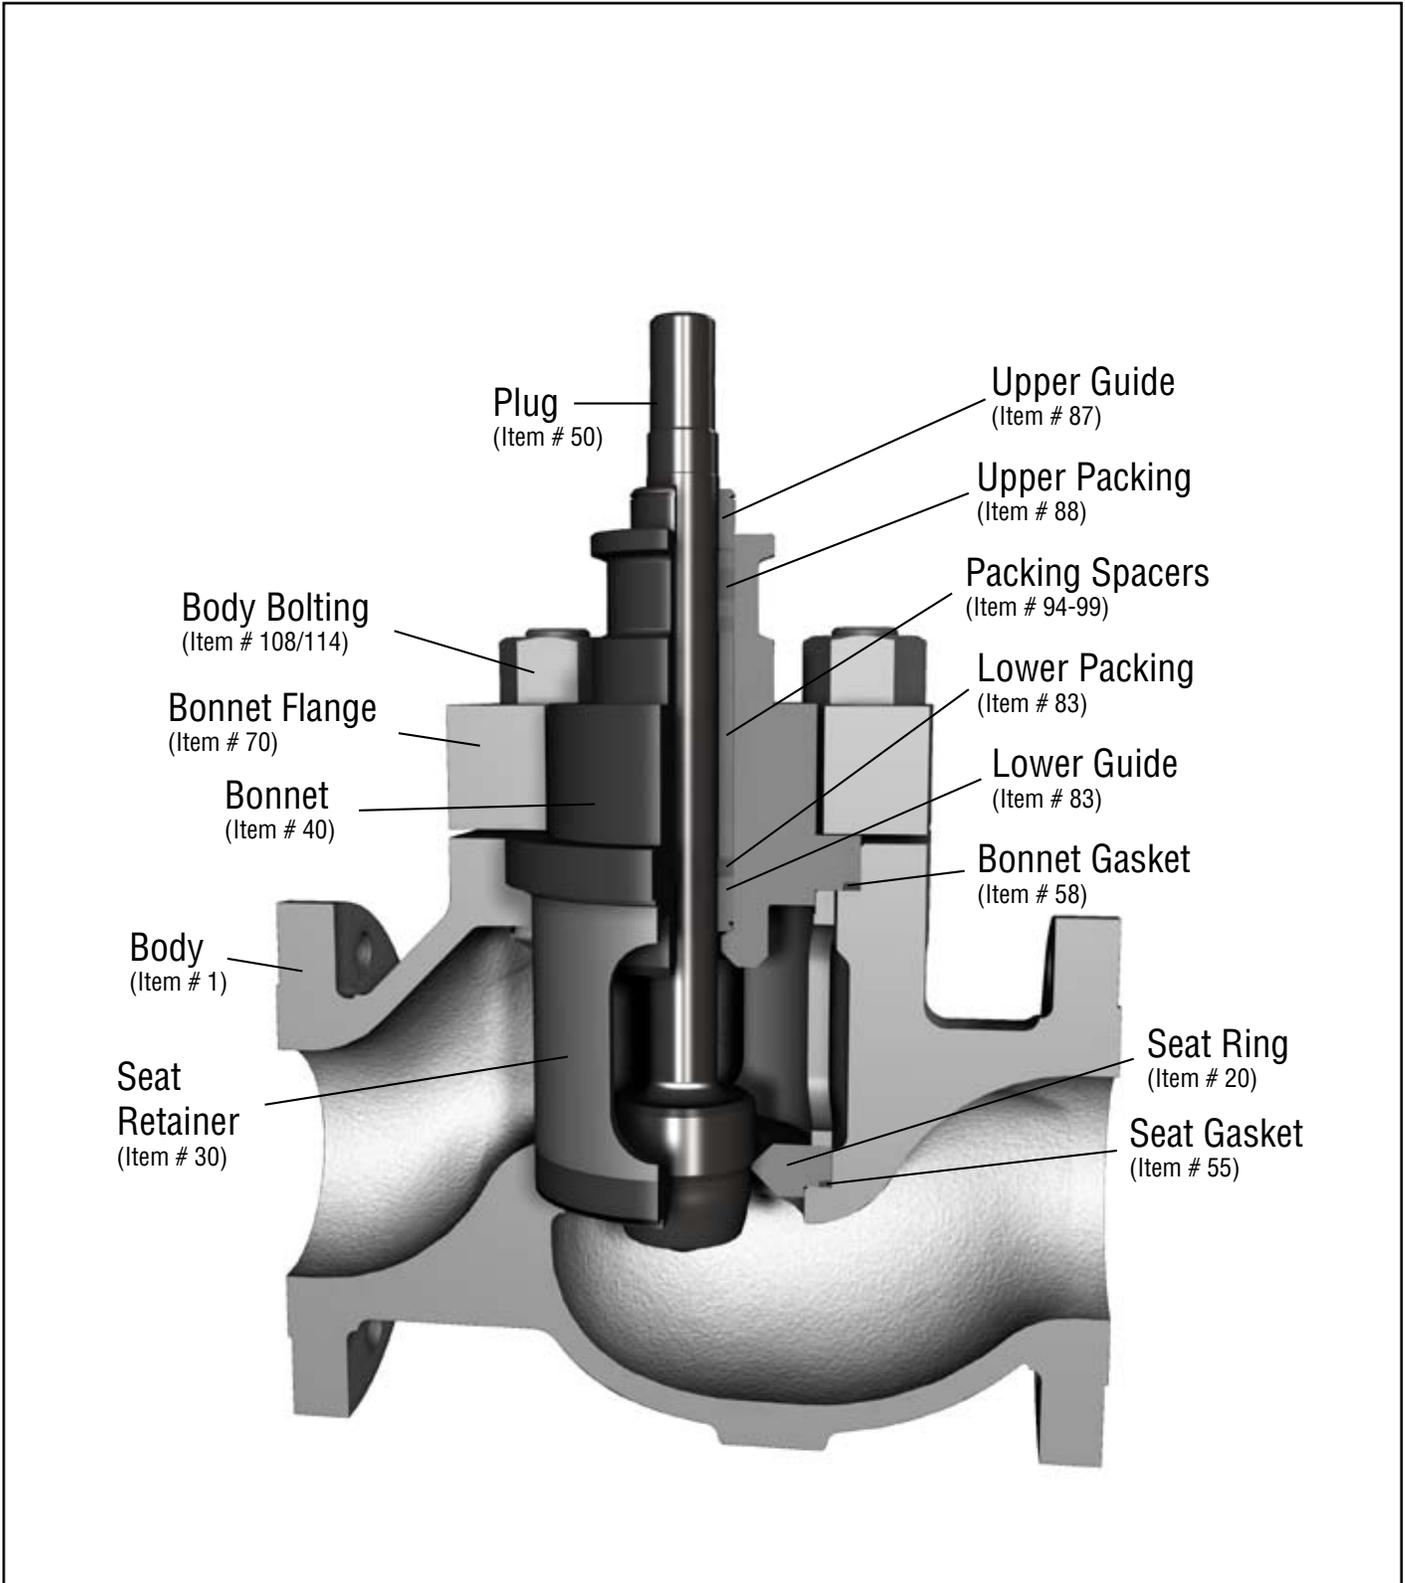

Figure 1: Mark One Control Valve Body Assembly
- Figure 1 – Mark One Control Valve Body Assembly
6.1. To disassemble the valve body, refer to Figures 1, 2 and 3 then proceed as follows: